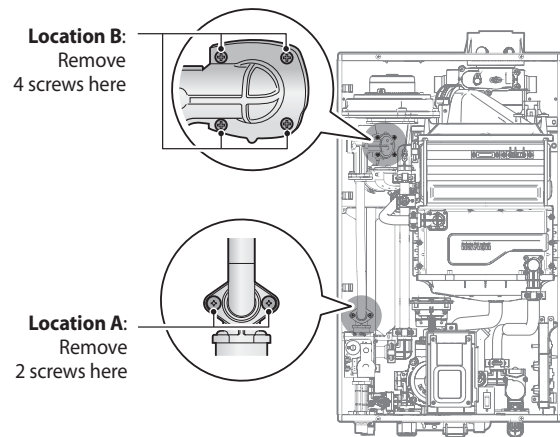

Figure 3. Detaching Gas Inlet Pipe from Gas Valve and Fan Motor Assembly
4. Use a Phillips screwdriver to remove the two screws at Location A - the connection below the Gas Valve where it connects to the pipe. See Figure 3 for reference. Once the screws are removed, carefully separate the pipe from the Gas Valve.